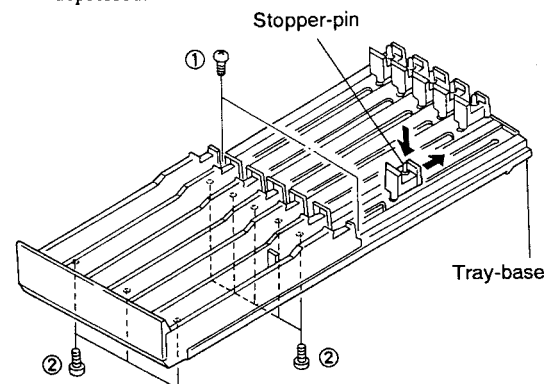

Fig. 2-4
2.4 REMOVAL OF CASSETTE HOLDER AND STOPPER-PIN (Refer to Fig 2-4 and 5.)